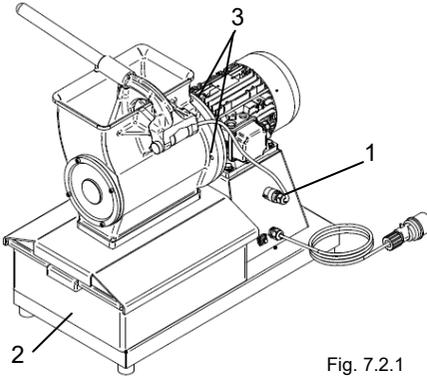

Fig. 7.2.1
- Disconnect the connector (ref 1 fig. 7.2.1)
- Remove the tray (ref 2 fig. 7.2.1)
- Unscrew the 4 x M12 screws (ref 3 fig. 7.2.1) with a 19 spanner